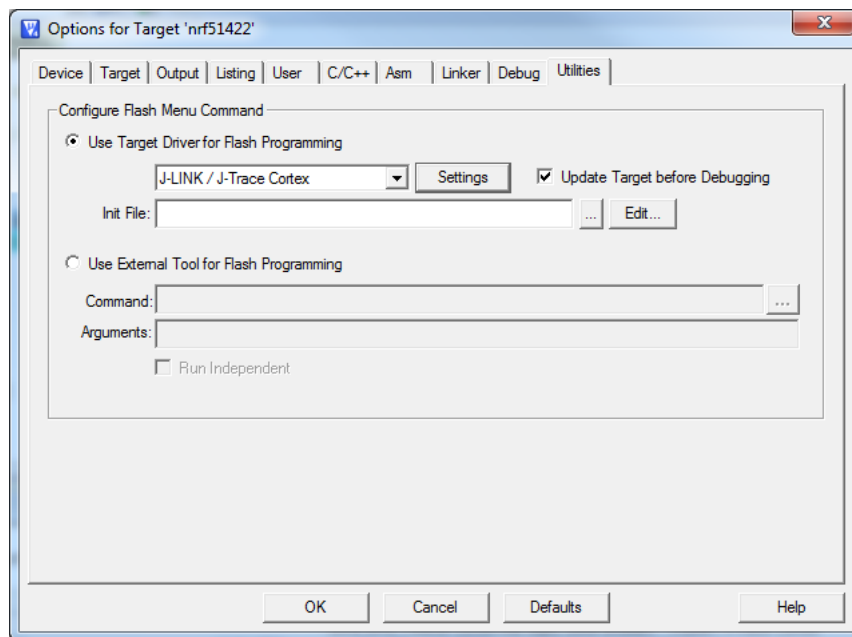

Figure 25 Debugger selection
9. Choose the available debugger from the list as shown in *Figure 25*.